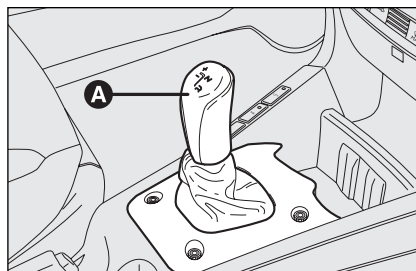

fig. 8
Gearshifting takes place through the control lever **A**-fig. 8, which is of the floating type with a "single central stable position". It is possible to request an increase/decrease of the gear ratio engaged and/or reverse gear engagement (R) or neutral (N).